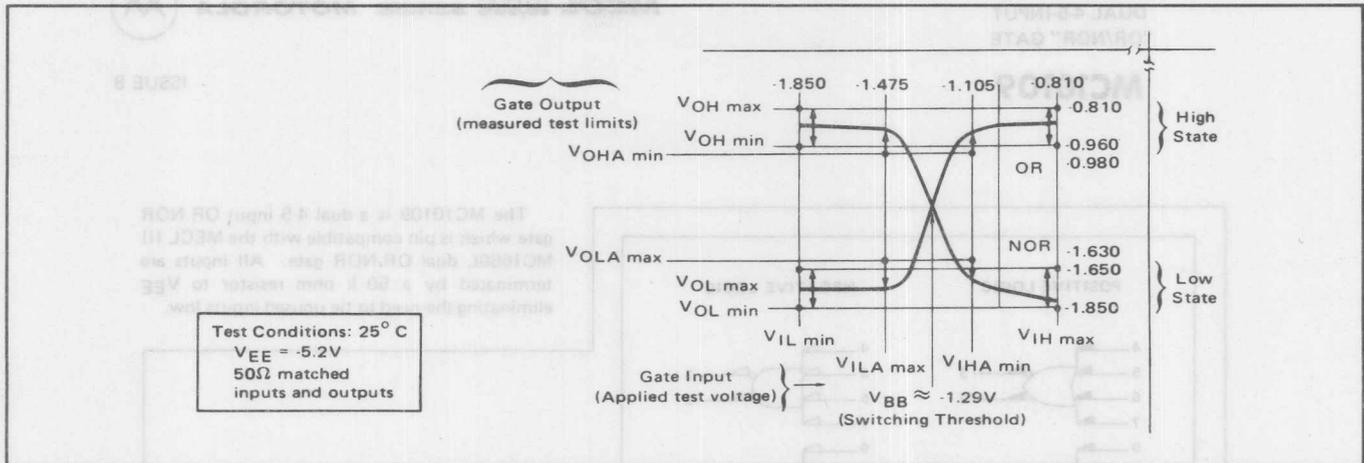

FIGURE 2 — MECL 10,000 transfer curve and specification points.
To show the transfer characteristics of a MECL gate, a curve may be obtained showing output levels versus input levels for both the OR and NOR outputs. Referring to Figure 2, the transfer curve for a MECL 10,000 gate is
The specified limits for output voltages are shown in Figure 2. The high output level will fall between  $V_{OHmax} = -0.810 V$  and  $V_{OHmin} = -0.960 V$ , and the low output level will be between  $V_{OLmax} = -1.650 V$  and  $V_{OLmin} = -1.850 V$ . These are the normal operating levels for MECL 10,000 (25°C) and output voltages remain within the preceding limits as long as the inputs stay within normal logic levels.
3. **High Output Voltage** – The minimum and maximum  $V_{OH}$  limits are given at 25°C and the commercial range temperature extremes, -30°C and 85°C. MECL 10,000 levels track with temperature, therefore, different limits are listed for the various temperatures. The  $V_{OH}$  level at 25°C falls in the band of voltage between  $V_{OHmax}$  and  $V_{OHmin}$  as shown in the transfer curve (Figure 2).
$V_{OL}$  falls in the lower band of voltage between  $V_{OLmax}$  and  $V_{OLmin}$  at 25°C as shown in Figure 2.